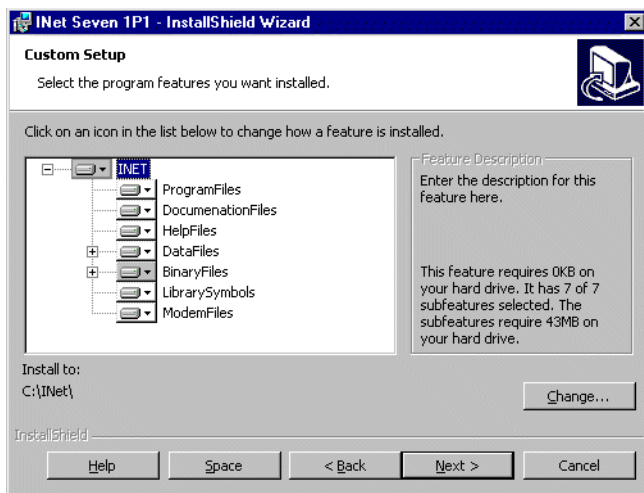

Figure 2-13. Select Components Dialog Box
17. If you selected *Custom* in Step 16, Setup displays the Custom Setup dialog box shown in Figure 2-13.